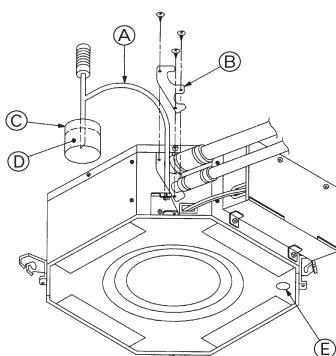

Fig. 6-3
- Point the remote controller towards the indoor unit receiver while following steps ② to ⑦.
6.3. Check of drainage (Fig. 6-3)